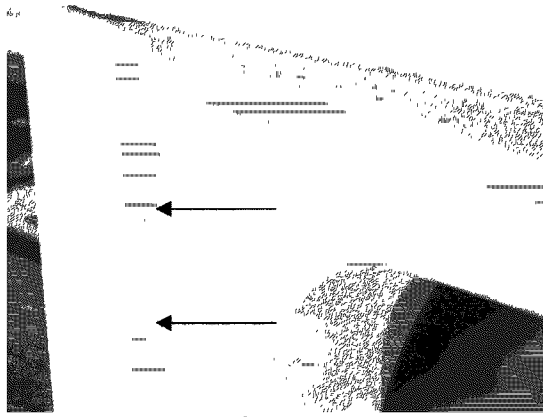

Figure 1
1 Open door and remove four (4) plugs in the door opening opposite the hinges. Retain all parts for uses later, unless otherwise noted (Figure 1) **Note:** Use care in removing plugs in not scratching paint on the front panel